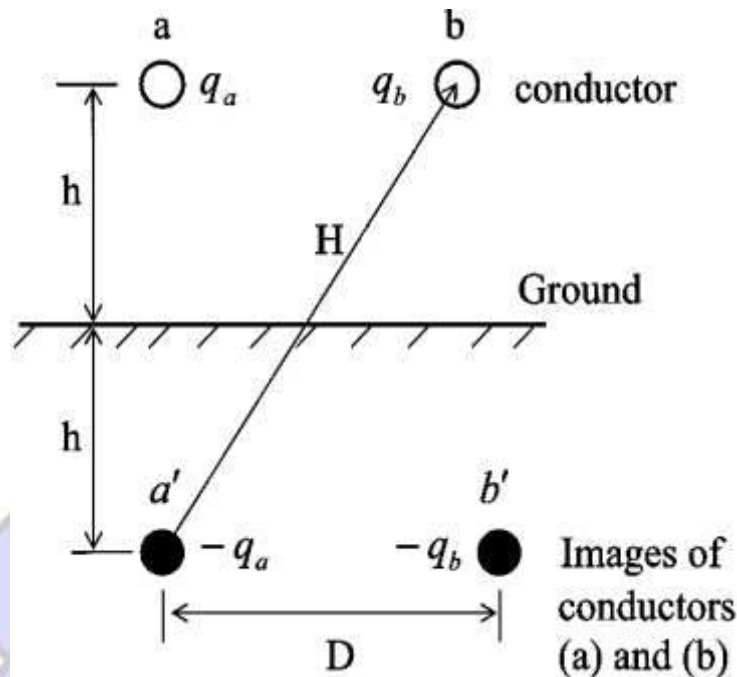

Fig. 27:
- Figure 27 shows a single-phase line with flat horizontal spacing. The earth plane is replaced by separate image conductor for each overhead conductor.